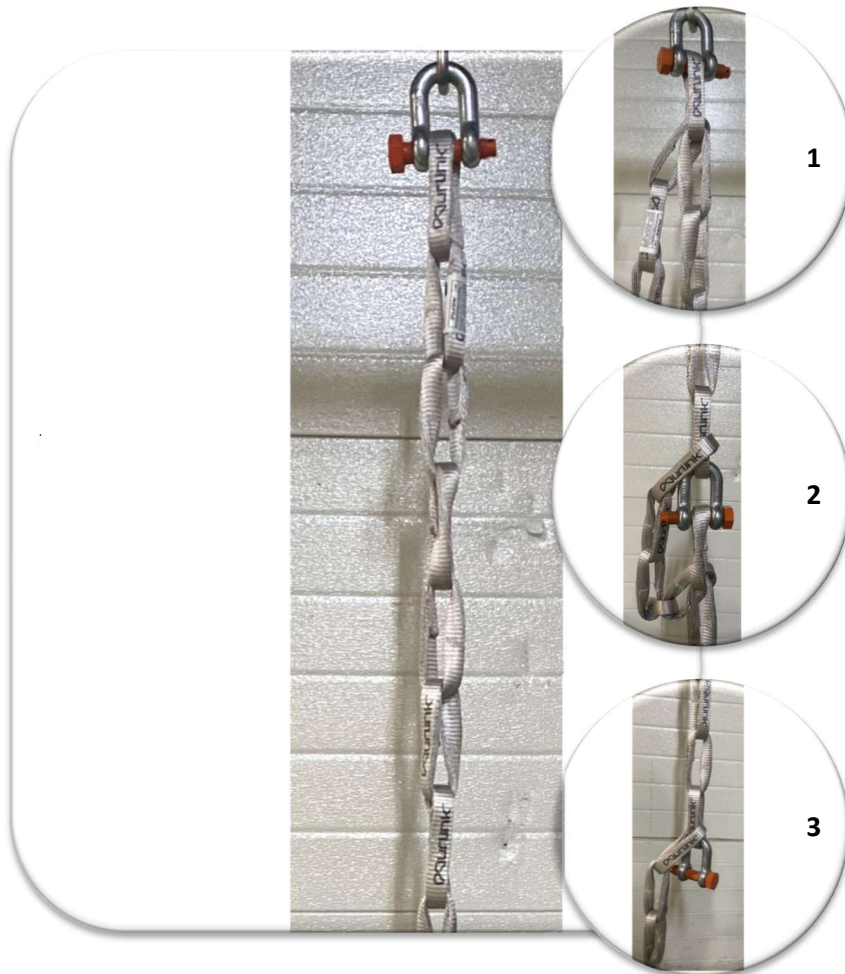

Figure 3. Murlink® chain shortening.
- The chain can be shortened in any of its links (Figure 3). Never shorten the chain by making a knot.